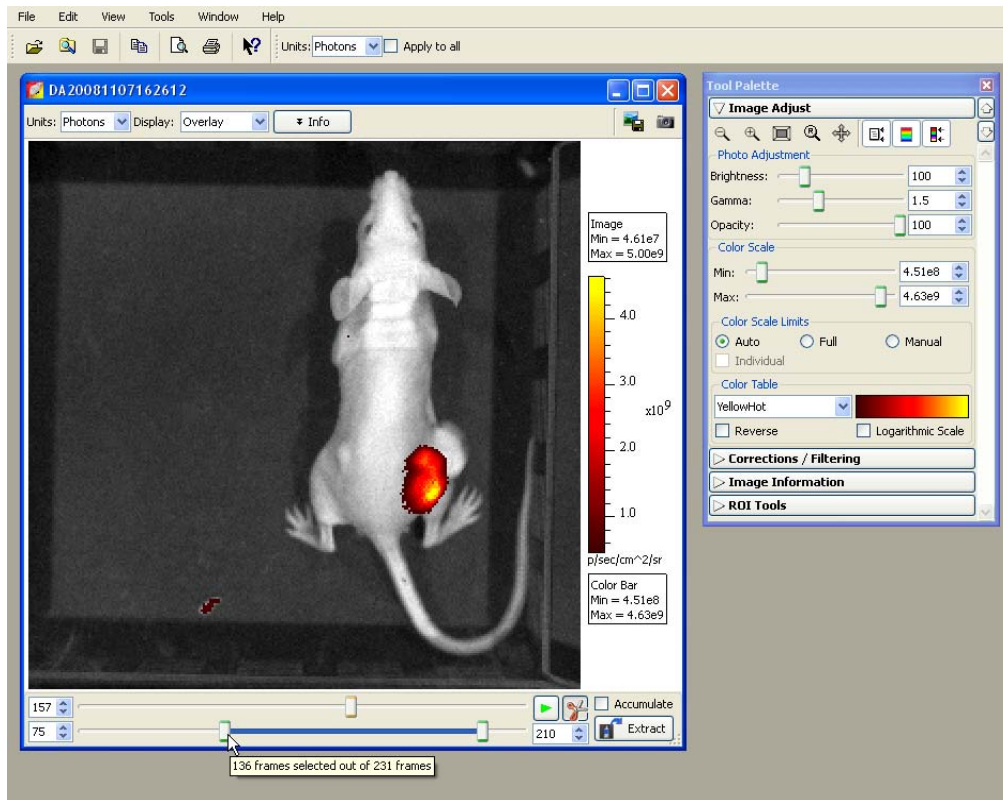

Figure 5.12 Image window, selecting kinetic data for export
1. In the image window, click the  button (Figure 5.12).